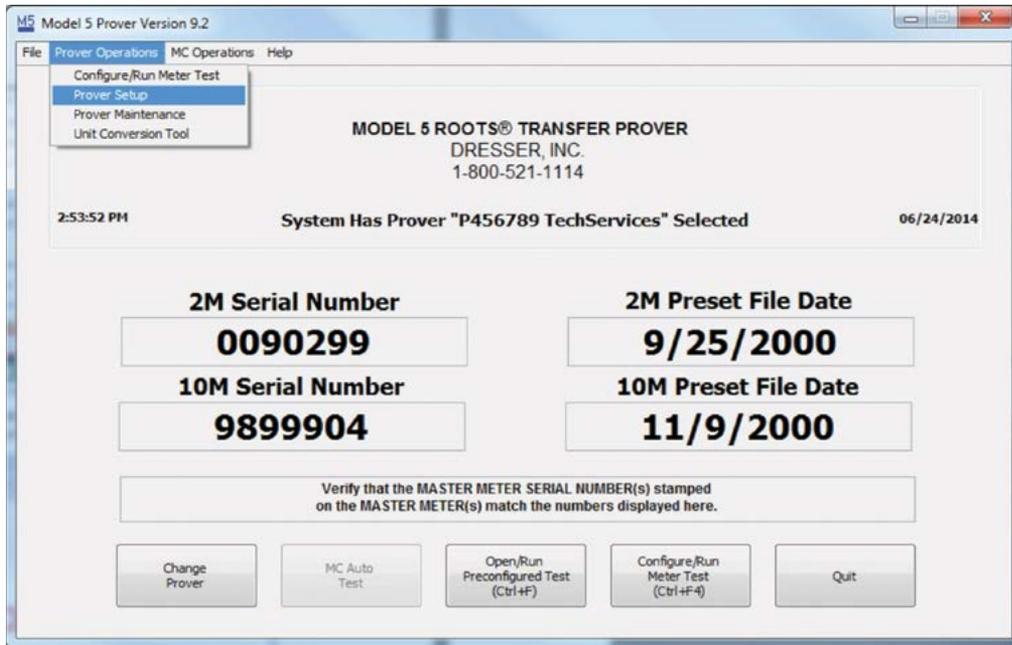

Figure 64: Prover Set Up Selection
1. On the upper, left-hand corner of the initial start up screen, select "Prover Operations" then "Prover Setup" as shown in **Figure 64**.